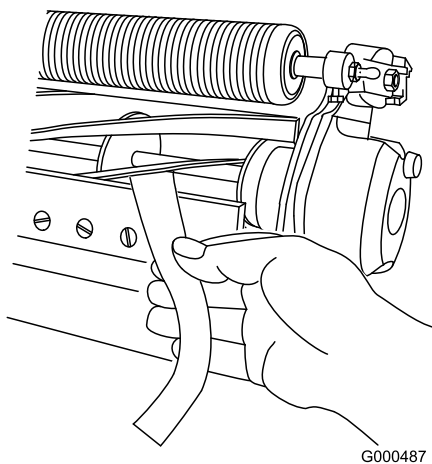

Figure 18
3. Test the cutting performance by inserting a long strip of cutting performance paper (Toro part number 125-5610) between reel and bedknife, perpendicular to the bedknife (Figure 18). **Slowly** rotate the reel forward; it should cut the paper.